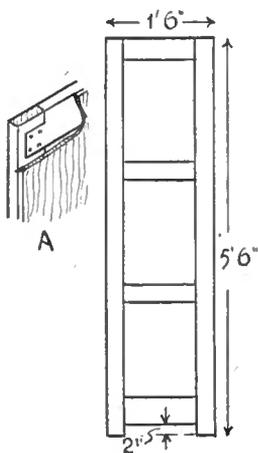
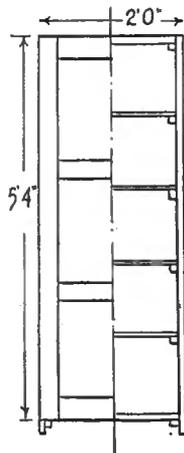

Fig. 1
Fig. 2
The sides and door are framed with  $\frac{3}{4}$ in. by 3in. wood, with the sole exception of the bottom rails of the sides, which are 4ins. wide instead of 3ins. A side elevation (Fig. 1) and front elevation (Fig. 2) supply suggested dimensions. A simple halved joint is used to fit these frames together, but to prevent cross-grain cut at the ends of the rails being visible the halved joints at the front edges of sides and door are stopped short by  $\frac{1}{4}$ in. as in detail (A). The door frame (half of which is shown in Fig. 2) is similarly framed but note that it is 2ins. shorter in height.
A diagram showing the general layout of the set appears in Fig. 2. Both frame aerial and speaker (with transformer) are in the lid. This gives best signal pick-up, as the aerial winding is